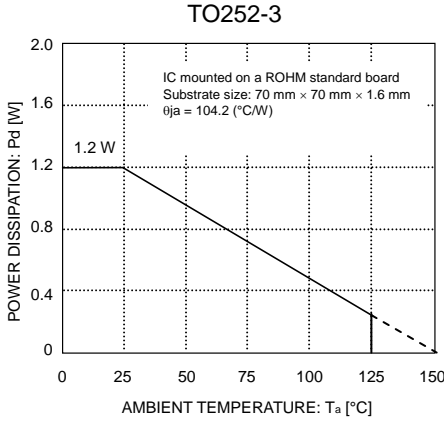

Fig. 23
Refer to the heat mitigation characteristics illustrated in Figs. 23, 24 and 25 when using the IC in an environment where  $T_a \geq 25^\circ\text{C}$ . The characteristics of the IC are greatly influenced by the operating temperature. If the temperature is in excess of the maximum junction temperature  $T_{jmax}$ , the elements of the IC may be deteriorated or damaged. It is necessary to give sufficient consideration to the heat of the IC in view of two points, i.e., the protection of the IC from instantaneous damage and the maintenance of the reliability of the IC in long-time operation.
In order to protect the IC from thermal destruction, it is necessary to operate the IC not in excess of the maximum junction temperature  $T_{jmax}$ . Fig. 23 illustrates the power dissipation/heat mitigation characteristics for the TO252 package. Operate the IC within the power dissipation Pd. The following method is used to calculate the power consumption Pc (W).